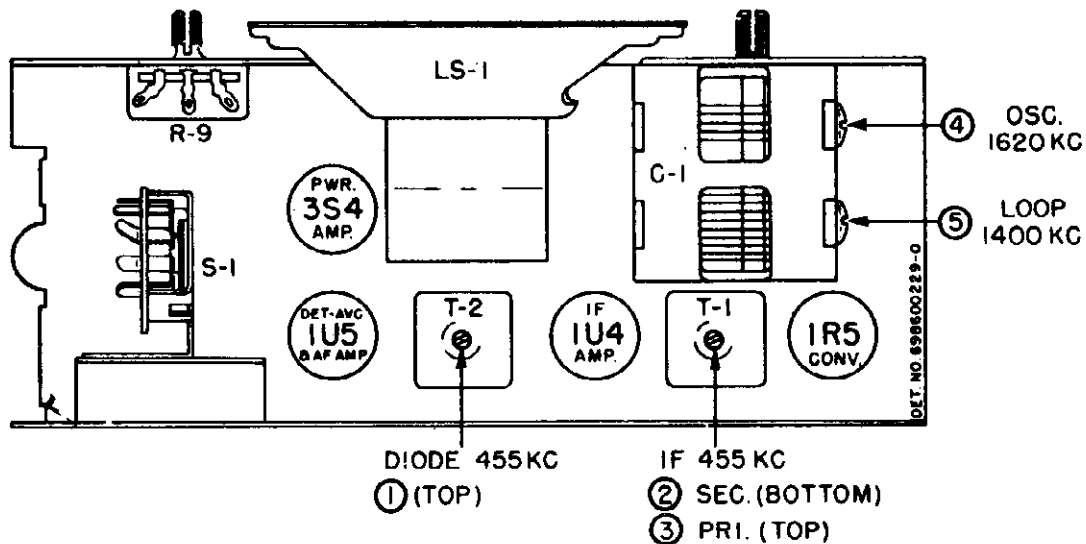

FIGURE 2. TUBE & TRIMMER LOCATIONS
7. See Figure 2 for adjusting locations and the followi chart for procedure.